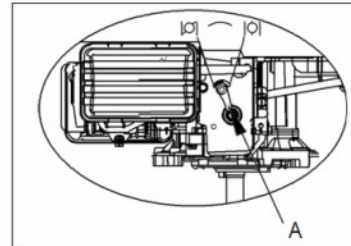

Fig. 2B A. throttle control
b) Move the throttle control to the choke  position. (Fig 2B)